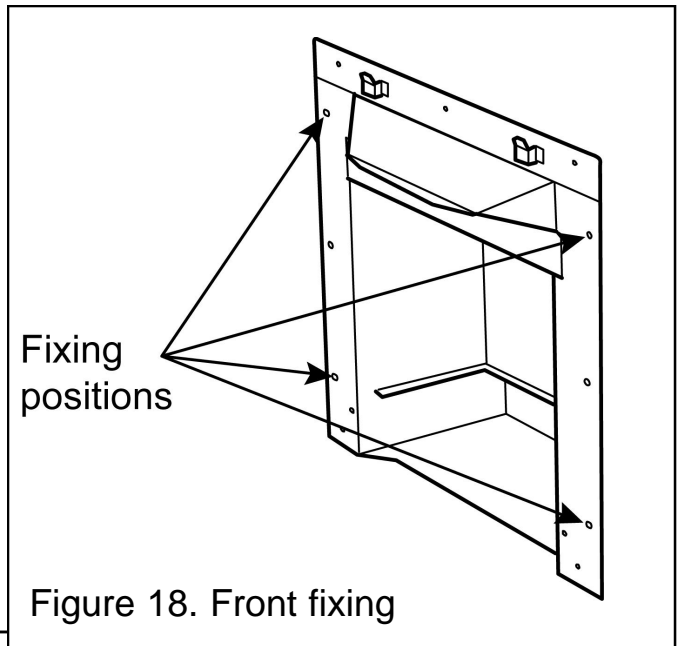

Figure 18. Front fixing
3. Mark the fireplace front surround through the four fixing holes in the side flanges of the convection box (See figure 18).